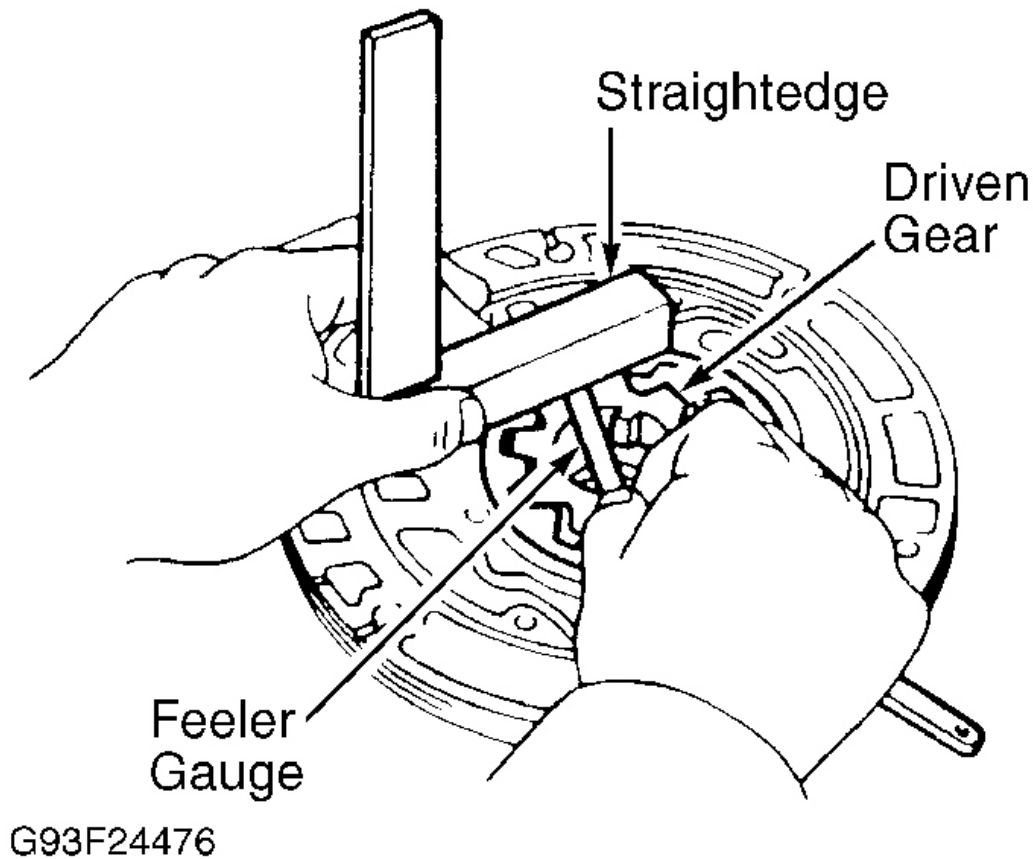

Fig. 23: Checking Oil Pump Gear Side Clearance
- Using feeler gauge and straightedge, measure side clearance of both gears. See **Fig. 23**. Replace oil pump body if clearance is not within specification. See **OIL PUMP CLEARANCE SPECIFICATIONS**. Gears are available in 3 different thicknesses. See **DRIVE & DRIVEN GEAR THICKNESS SPECIFICATIONS**.